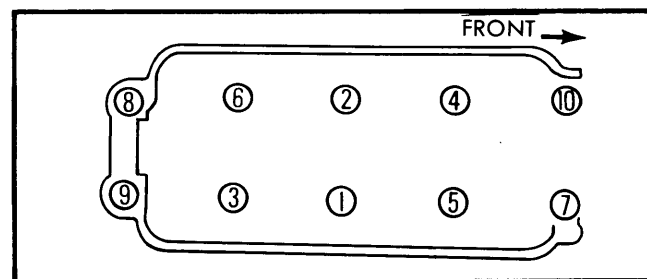

Fig. 2 Tighten Cylinder Head in Sequence Shown (Remove in Reverse Sequence)
2) Replace cylinder head and components in reverse of removal procedure. Tighten head bolts in 3 steps according to sequence illustrated in Fig. 2. See **TIGHTENING SPECIFICATIONS**. Start and run engine until normal operating temperatures are reached, then allow to cool to about 95°F (35°C) and tighten to final torque.